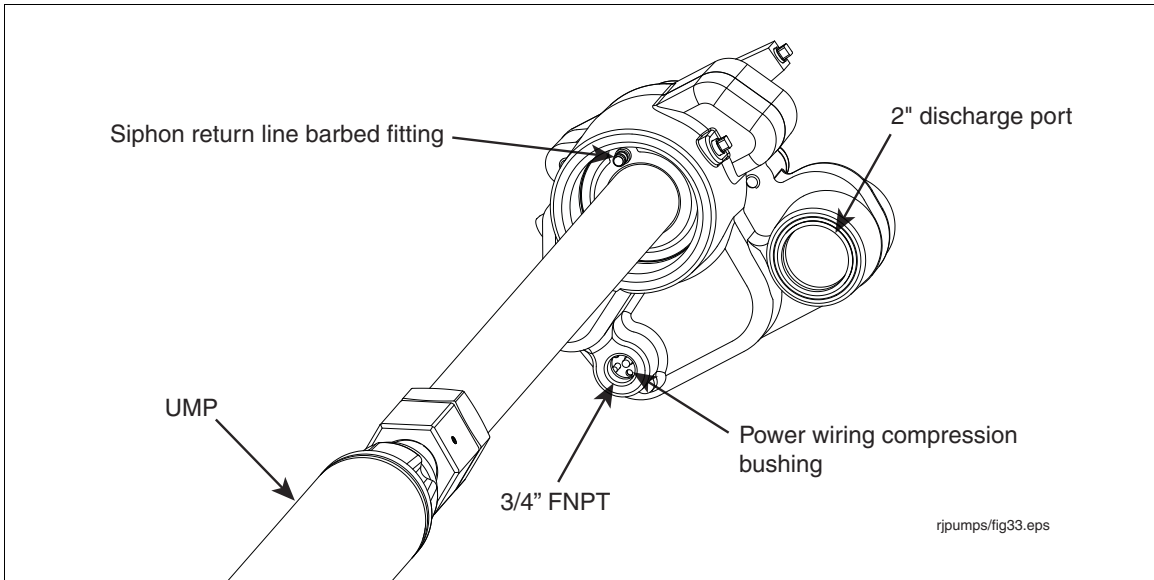

Figure 13. Locating Return Line Fitting On Packer
- Attach the siphon return line tubing to barbed fitting in the base of packer and secure with a clamp (see Figure 13).